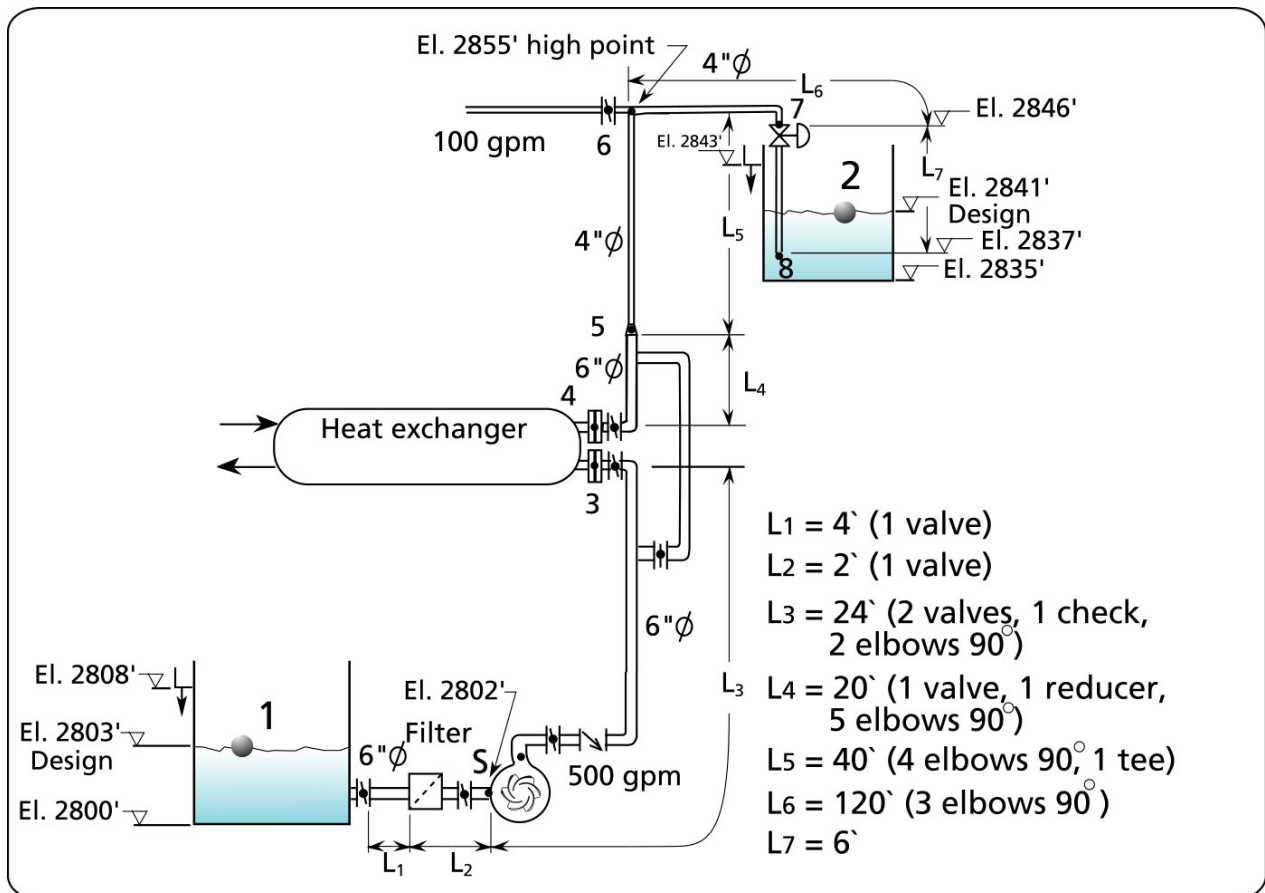

Figure 1 Calculation example flow schematic.
*Notes and instructions: disregard the reducer loss in the calculation. This calculation can be done however it is long and including it does not significantly enhance this exercise. For the pressure head loss due to the check valve use the CV coefficient given in Figure 4 and not the Hydraulic Institute fittings pressure head loss chart in Figure 9. The total head of the pump depends on the path of fluid particles that demands the most energy. It has been established that this path is between points 1 and 2 (see Figure 1).*